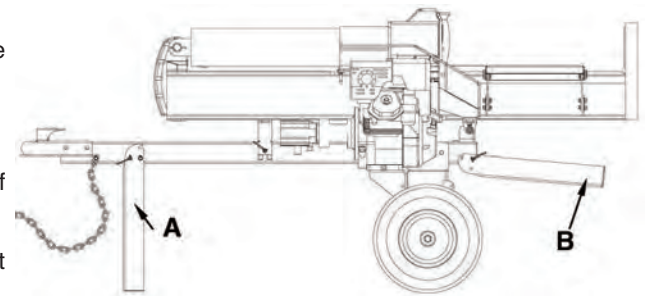

Figure 24
- 4) Lock the front outrigger leg (A) Fig.24 in the "DOWN" position and the rear support leg (B) in the "UP" position before you move the log splitter.